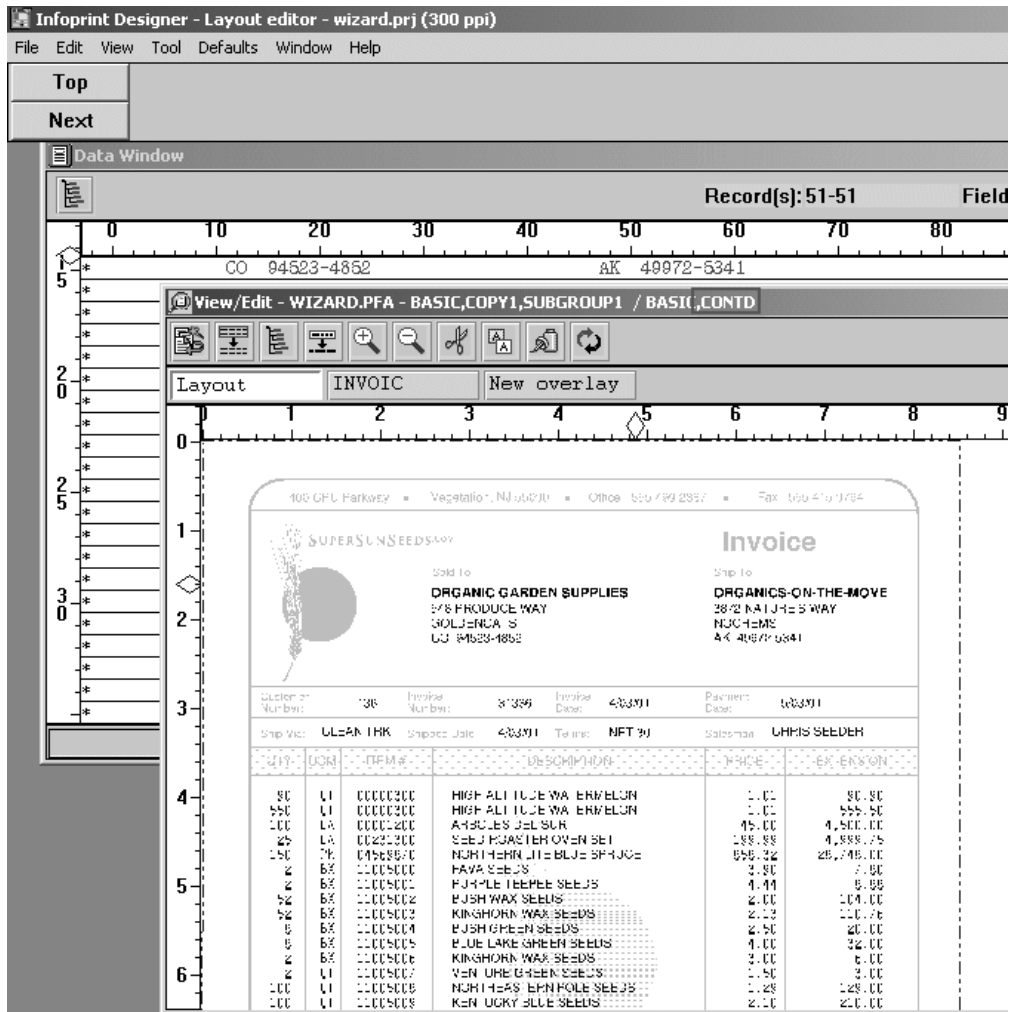

Figure 27. Previewing the results of the Wizard
14. The second page of the spooled file shows in both the **Data** window (in blue) and in the **View/Edit** window. Notice that the title bar of the **View/Edit** window shows that the active page format is **CONTD** instead of **PAGE1**, as shown in Figure 27 on page 54. This indicates that you are now using the page format you specified to use when the field contains the string "Continued."